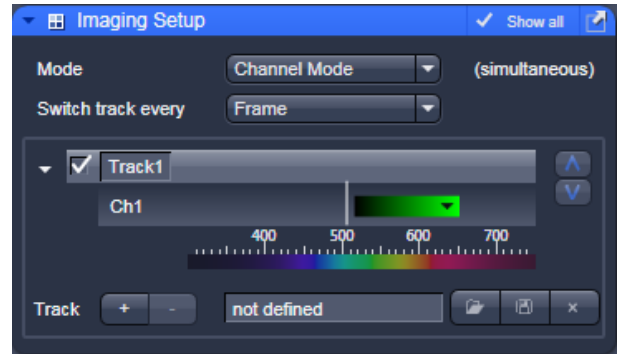

Fig. 5-57 Imaging Setup tool – imaging mode selection and track activation
- Activate the main tool tab **Acquisition** and open the **Imaging Setup** tool. Chose **Channel Mode** for the image acquisition and check the box next to Track1 (Fig. 5-57).